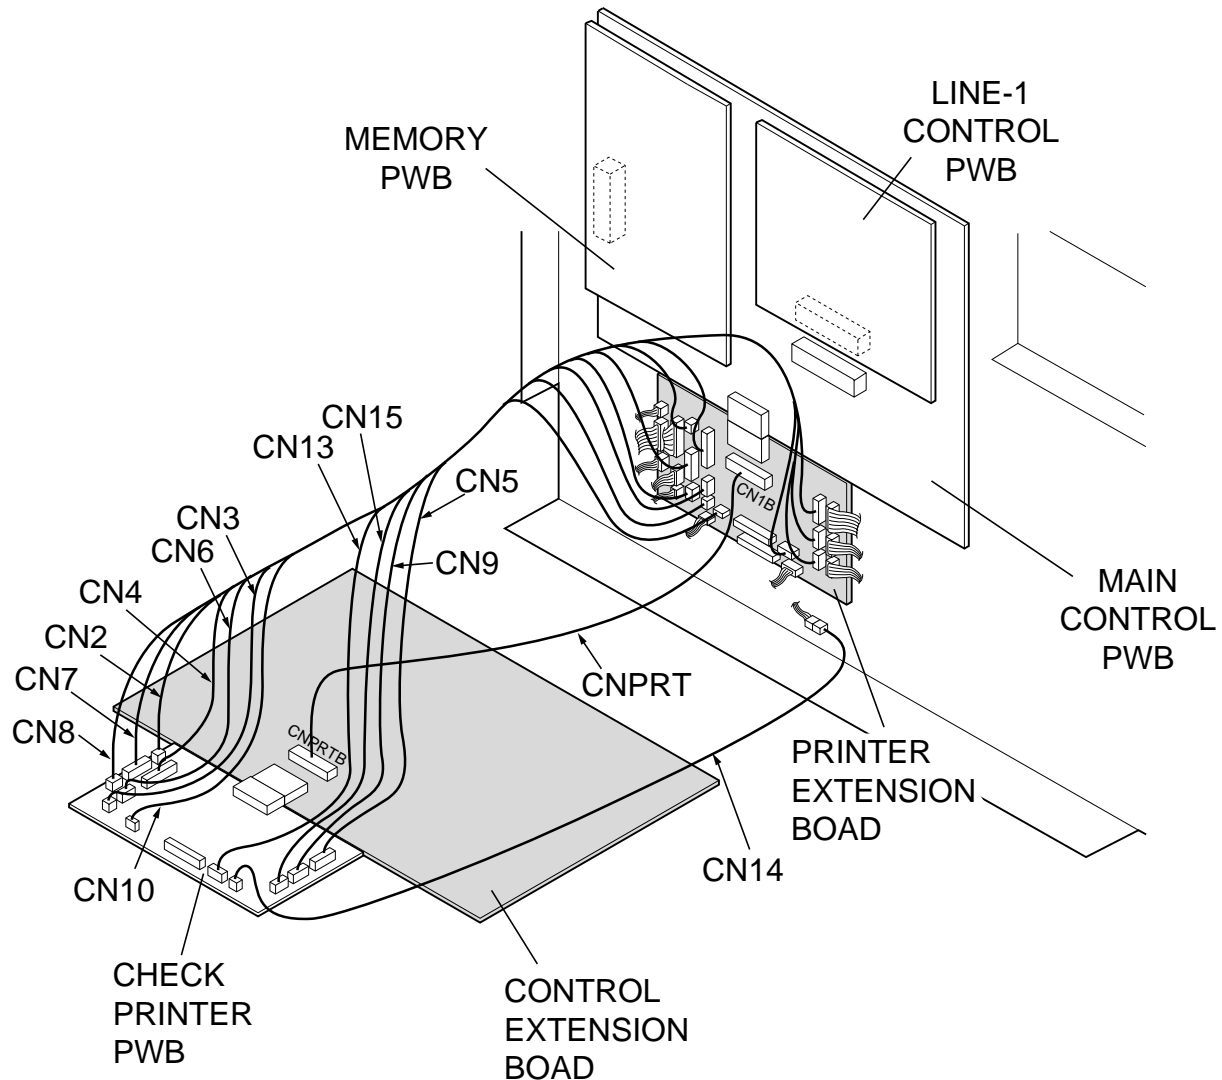

Fig. 2
- 3) Connect the Extension Cables to the connectors (B side) of Extension Board (Printer-EX) as shown in Fig 2.
- 1) Connect all cables to the connectors of Extension Boards and Check PWB as shown in Fig.2 on page 8-3.